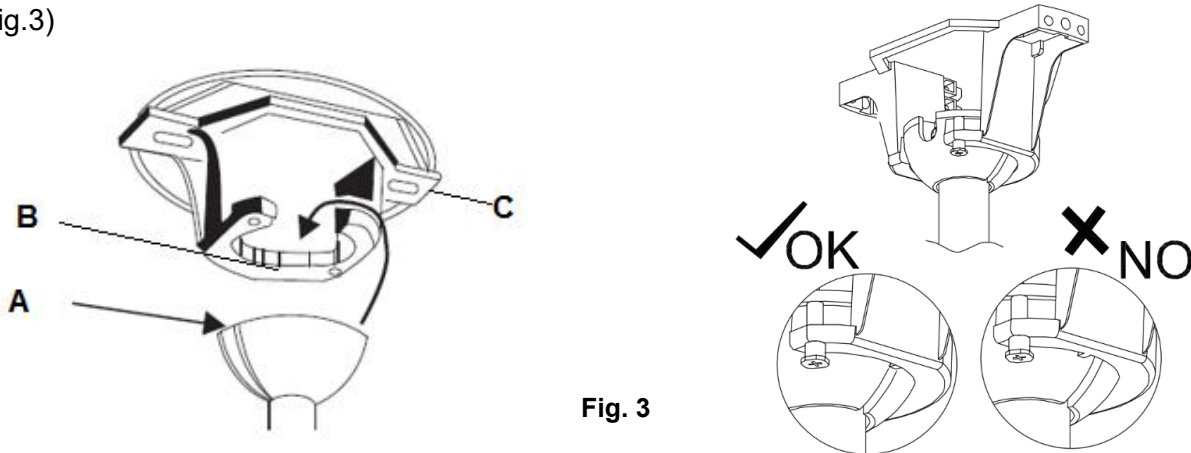

Fig. 3
- Secure the mounting bracket with the canopy top cover to the ceiling joist or structure that is capable of carrying a load of at least 26kg, with two long mounting screws provided. Ensure at least 30mm of the screw is threaded into the support. (Fig. 3)
Lift the fan assembly onto the mounting bracket. Ensure the registration slot (A) of the hanger ball is positioned on the stopper (B) of the mounting bracket (C) to prevent the fan from rotating when in operation. (Fig.3)